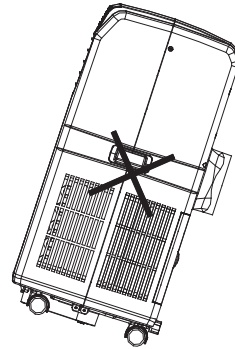

FIG. 1
- ALWAYS OPERATE THE UNIT IN AN UPRIGHT POSITION AND PLACE IT ON A FLAT, LEVEL SURFACE AT LEAST 14 INCHES AWAY FROM ANY OTHER OBJECTS (Fig 1 & 4).